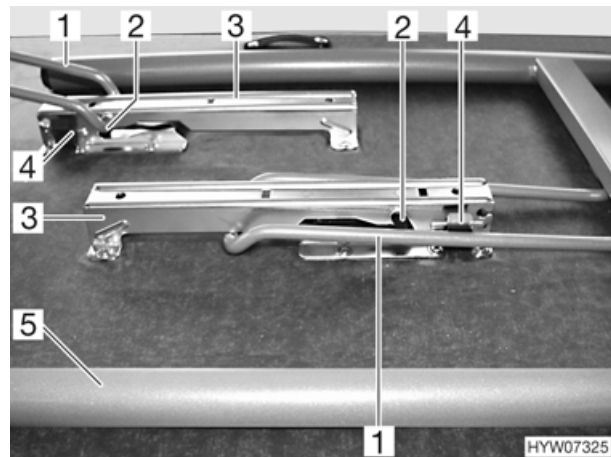

Fig. 26 Folding table, folding mechanism
- Fold the legs (Fig. 26,5) one after the other outwards against the resistance of the springs (Fig. 26,4) until the retaining clips (Fig. 26,1) engage in the hooks (Fig. 26,2) of the guides (Fig. 26,3).
- Press the retaining clips (Fig. 26,1) on both legs one after the other from the hook (Fig. 26,2) of the guide (Fig. 26,3) and fully retract the leg (Fig. 26,5).
The retaining clip is kept in the closed position by the spring (Fig. 26,4).